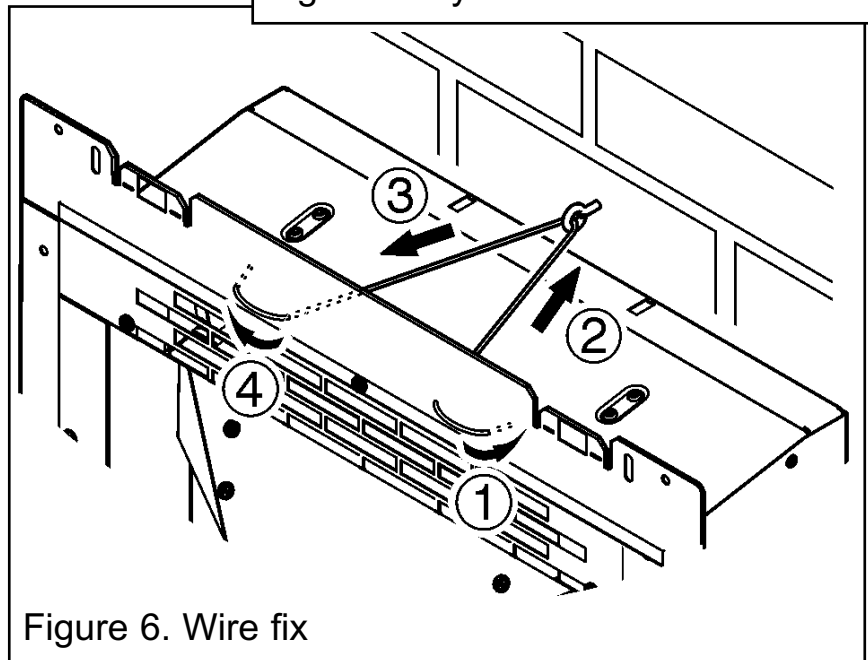

Figure 6. Wire fix
7. At the top of the heater there are four small holes, two each side of the heater. From the front of the heater, thread about 50mm of the steel wire into the outside small hole on the right side of the heater (See point 1 - figure 6).
8. Thread the other end of the wire through the remaining small hole to the left. Continue to push the wire through this hole until there is only a small loop of wire at the front of the heater (See point 2 - figure 6).
9. At the back of the heater there will be a long piece and a short piece of wire coming through the two holes. Hold the short piece and give the long piece a gentle tug. This will secure the steel wire. Take the long piece and thread this through the eyescrew in the back of the fireplace opening (See figure 6).
10. From the back of the heater thread the long piece of steel wire through the inner small hole on the left hand side of the heater (See figure 6).
11. Locate the heater in the fireplace opening, then from the front of the heater, gently pull the steel wire on the right hand side to gather up the excess until the heater is secure. Thread the wire through the remaining small hole to lock the wire and heater in place (See point 4 - figure 6).